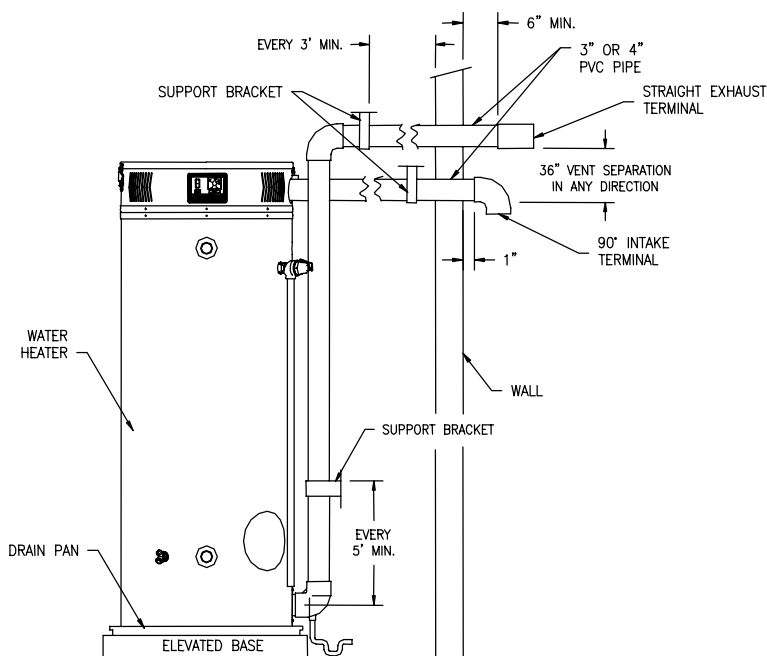

Figure 13. Typical Horizontal Direct Vent System
- Use the proper PVC cement to secure the exhaust vent and air intake terminals provided with the water heater to the plastic pipes. The distance between the back edge of the exhaust vent terminal and the exterior wall (see Figure 13) must be 6 inches (*12.7 cm*) more for the exhaust vent terminal than the air intake terminal. Use the proper cement or sealant and assembly procedures to secure the vent connector joints between the terminal and the blower outlet. Provide support brackets for every 3 feet (*.91 m*) of horizontal vent beyond the intake terminal.